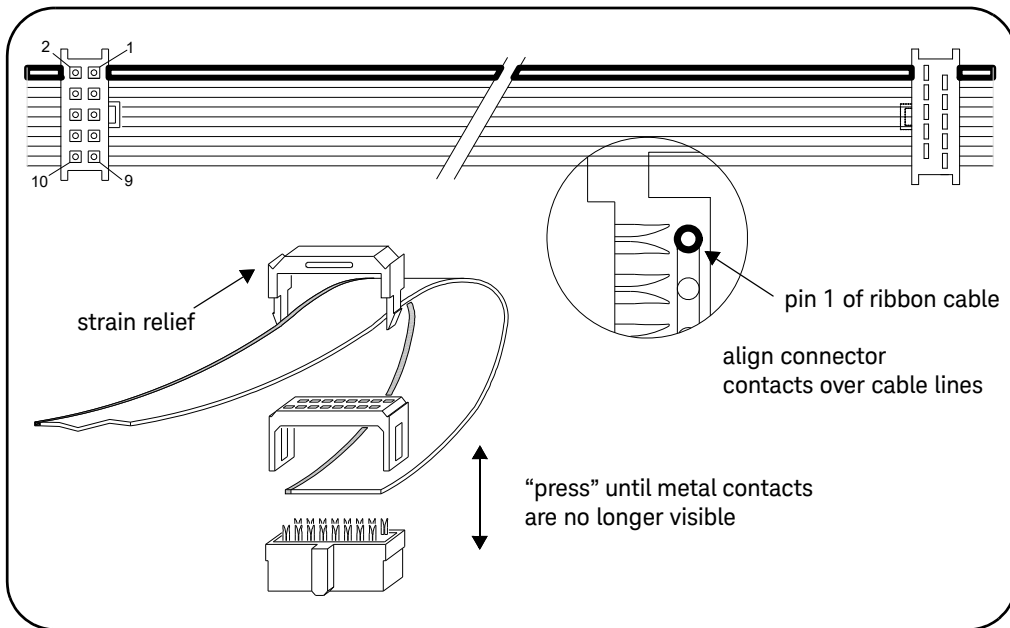

Figure 1-4 Y1158A 10-pin to 10-pin Connector Orientation and Cable Routing.
- 2 Position the ribbon cable connectors as shown in Figure 1-4. Route the cable **through** the connectors, noting the location of pin 1 on the cable. By convention, pin 1 is indicated in red (the dark line in the drawing).
- 6 Fasten the strain relief clamps over the cable and into the ribbon cable connectors as shown in Figure 1-4. Remove any excess cable after the clamps are in place.